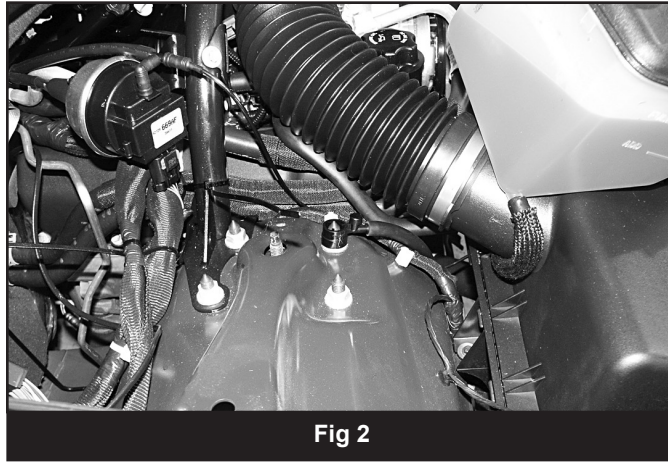

Fig 2
6. On the passenger's side, remove the coolant reservoir mounting hardware and move the reservoir to expose the passenger's side strut nuts. Remove the four strut nuts and retaining. DO NOT remove the center stem nut, it is under extreme pressure. (Fig 2)